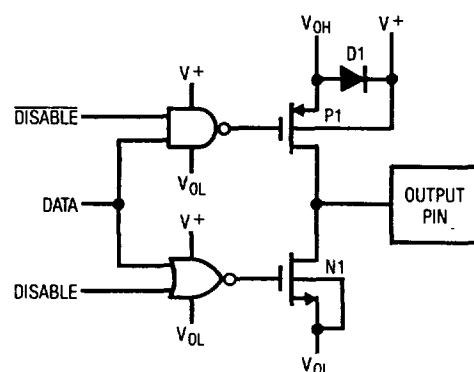

Figure 5. Output Driver
**PN** There are four power supplies on the LTC1045:  $V^+$ ,  $V^-$ ,  $V_{OH}$  and  $V_{OL}$ . They can be connected almost arbitrarily, but there are a few restrictions. A minimum differential must exist between  $V^+$  and  $V^-$  and  $V_{OH}$  and  $V_{OL}$ . The  $V^+$  to  $V^-$  differential must be at least 4.5V and the  $V_{OH}$  to  $V_{OL}$  differential must be at least 3.0V. Another restriction is caused by the internal parasitic diode D1 (see Figure 5).